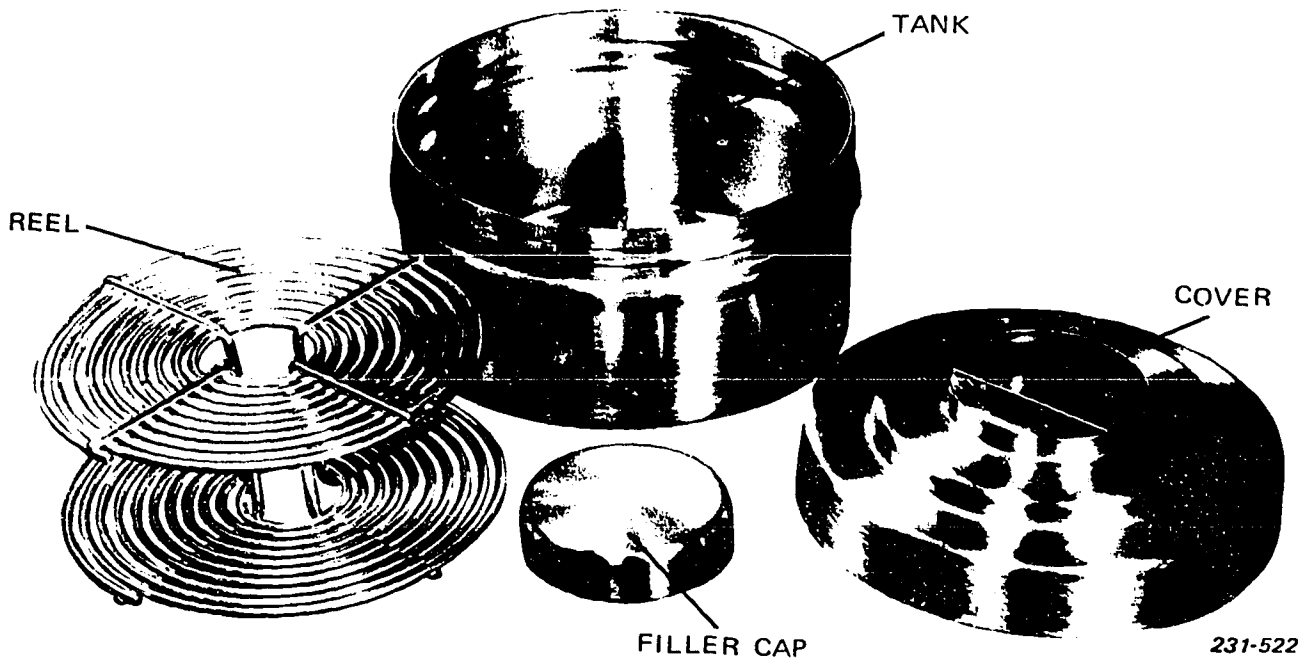

Figure 2-4. Stainless steel roll film tank and reel.
**Developing Roll Film.** It is far more convenient and reliable to develop roll film in a small tank than in a tray. The design, detail, and construction differs somewhat among the various manufacturers' models of tanks, resulting in differences in loading and use. Generally, the basic unit, as illustrated in figure 2-4, consists of a spiraled and grooved reel to hold the film, a tank with a light-tight cover, and a filler cap. Each reel is constructed for a specific size roll of film. The tank top permits pouring the chemicals in and out in the light. Normally, all the parts are made out of stainless-steel or plastic.